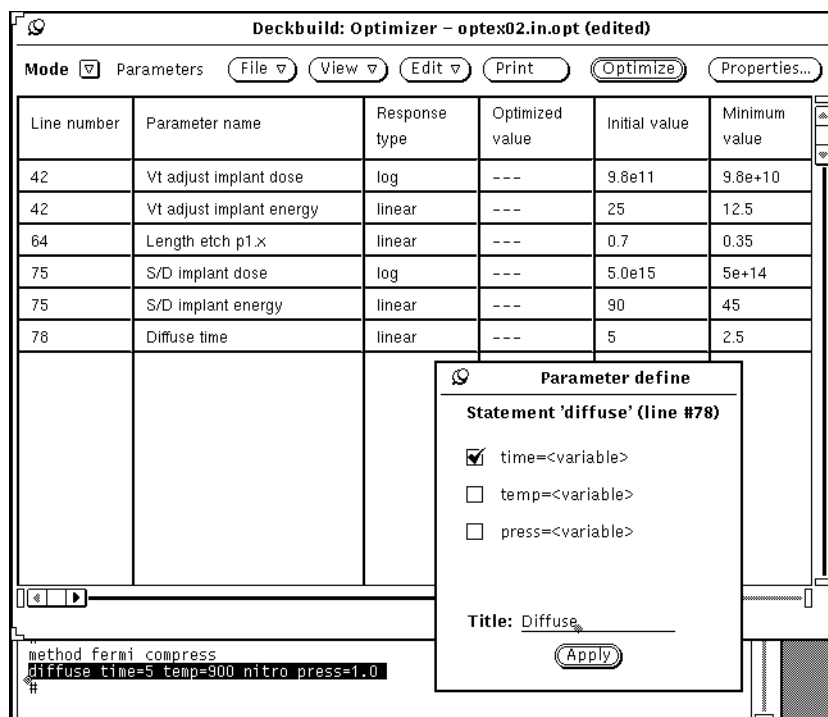

Figure 6-6: Parameters Added to Worksheet
4. Check the checkboxes next to the desired parameter(s) by clicking SELECT next to their names. You can also type in a title. The parameter name on the worksheet are formed by appending the individual parameter names (shown next to the checkboxes) with the title. When you select all the desired parameters, click on **Apply**. A new row is inserted into the **Parameter** worksheet for each selected parameter on the popup (Figure 6-6). The rows are always arranged by line number.